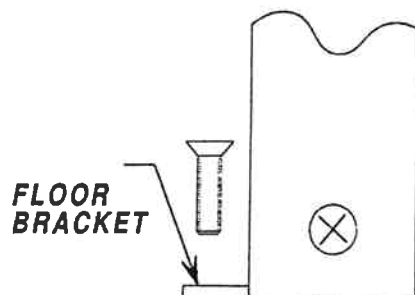

Figure 17
- 4 Install floor bracket into panel. Plumb panel and fasten bracket to floor (Ref. Fig. 17).